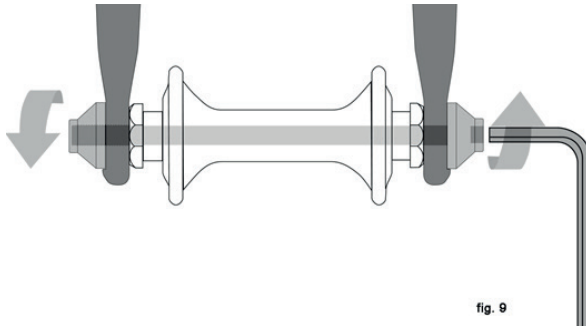

fig. 9
1. A hollow axle with a shaft (“skewer”) running through it which has a nut on one end and a fitting for a hex key, lock lever or other tightening device on the other (through bolt, fig. 9)